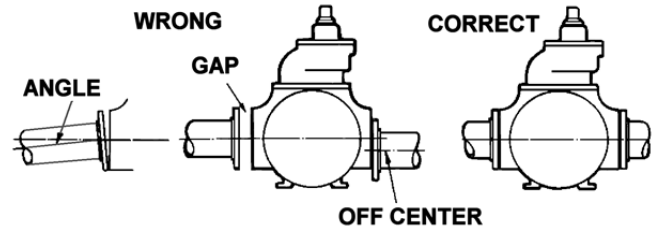

Figure 1
8. Check alignment of pipes to pump to avoid strains which might later cause misalignment. See Figure 1. Unbolt flanges or break union joints. Pipes should not spring away or drop down. After pump has been in operation for a week or two, completely recheck alignment.